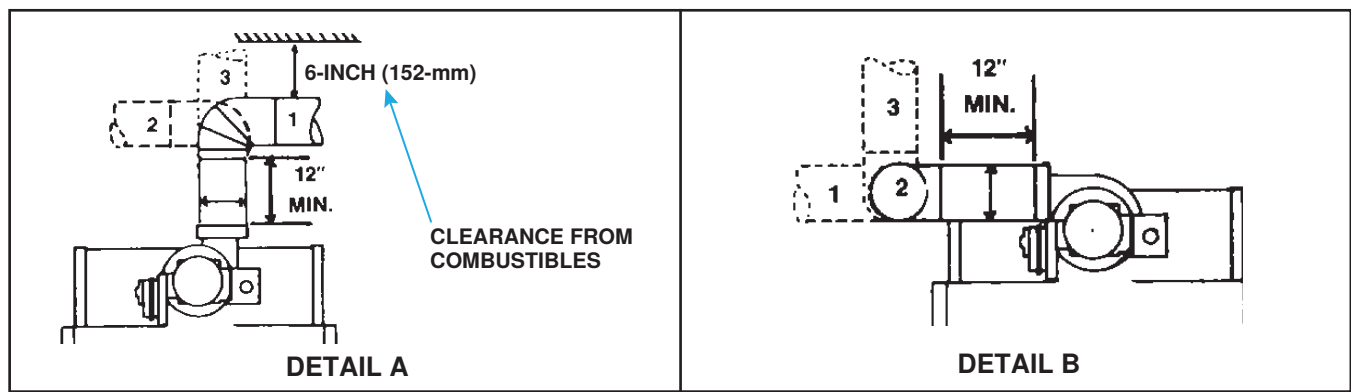

Figure 11. Rotating Venter Outlet
The venter is factory-installed as shown in **Figure 11**, DETAIL A. If required, the venter housing may be rotated as shown in **Figure 11**, DETAIL B. The vent may be run in one of three directions (1, 2, or 3) as shown. Rotate the venter housing as follows:
3. While holding motor, rotate venter housing to alternate position (1, 2, or 3) as shown in **Figure 11**, DETAIL B and reinstall motor plate to housing using three screws. To ensure correct venter wheel alignment, holes are provided in motor plate.